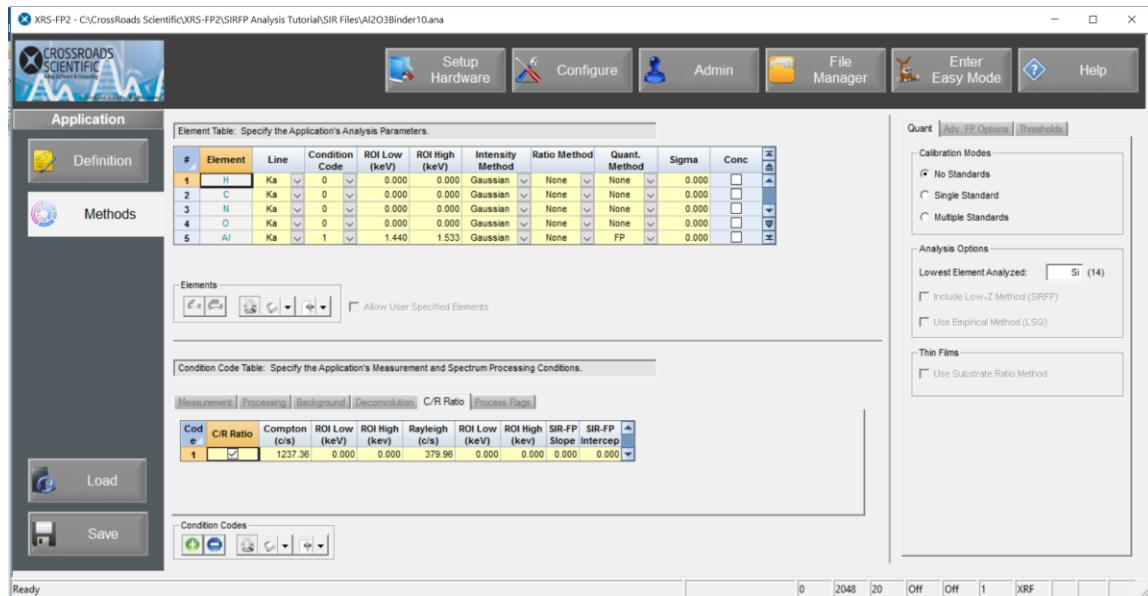

Figure 5. Application - Methods. Note that the “C/R Ratio” box is selected under the “C/R Ratio” tab.
5. Now select the **Methods** button and navigate to the “C/R Ratio” tab in the “Condition Code Table”. (see Fig. 5 below). Note that the **“C/R Ratio” checkbox is selected**. This must be selected for use with the SIR-FP calibration.